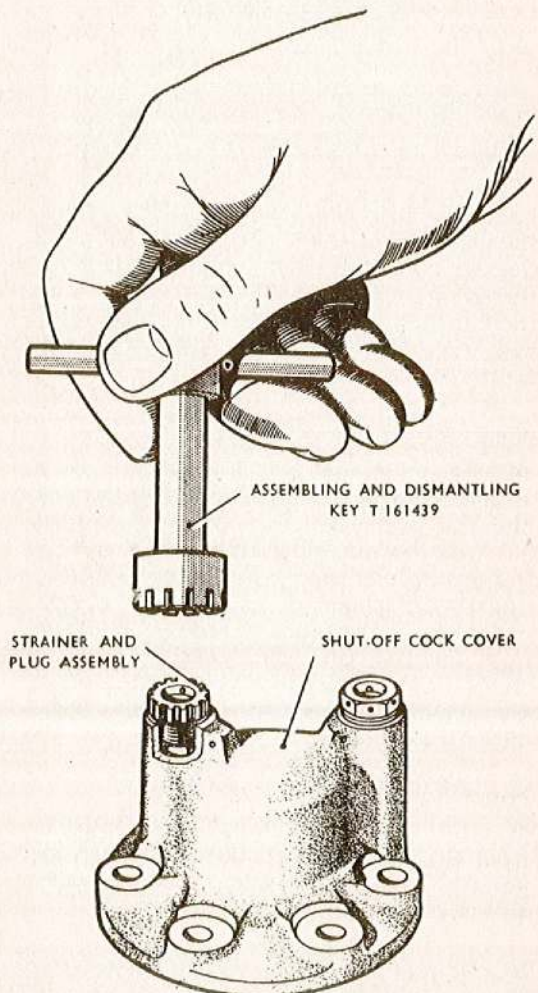

Fig. 5. Removing the servo-valve strainer
28. Remove the strainer and plug assembly from the cover by using the spanner T.161439 as shown in fig. 5. The strainer assembly must not be dismantled.